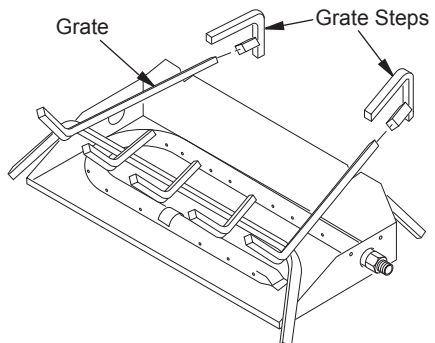

Figure 15 - Installing Grate (Pan Material Not Shown)
2. Slide two rear log grate steps over two outer horizontal supports on grate as shown in Figure 15.